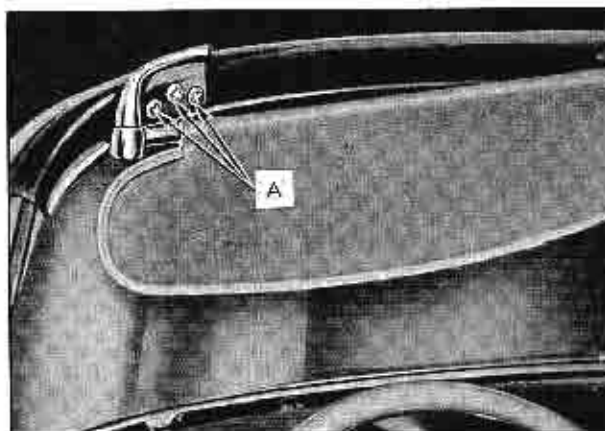

Fig. 3-100 Adjustment of Top at Sunshade Supports
2. Loosen screws, Fig. 3-100, and adjust sunshade support up or down or from side to side.